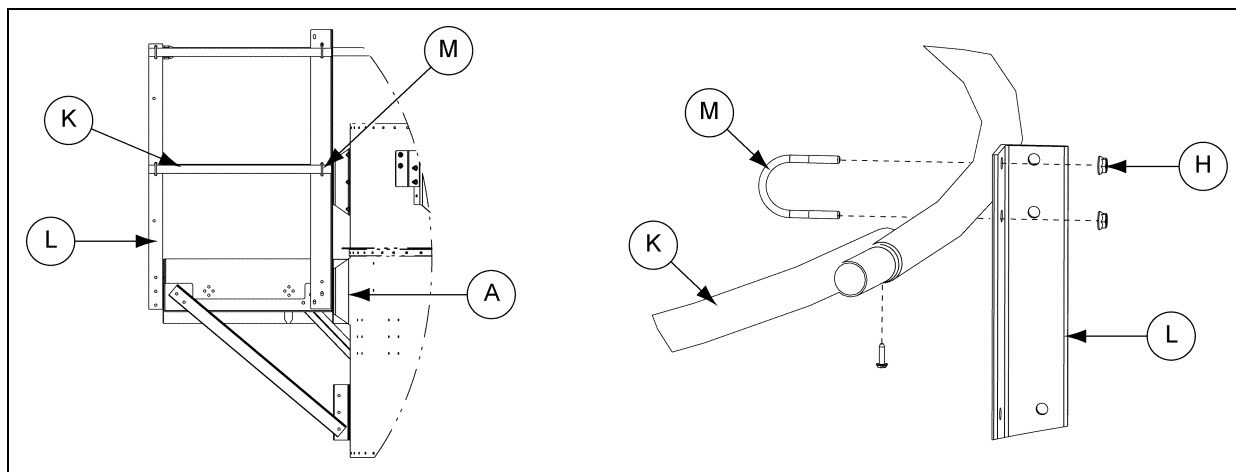

Figure 4G
8. Install the handrails (K) to the handrail posts (L) using U-bolt (M) and nut (H). *(See Figure 4G.)*